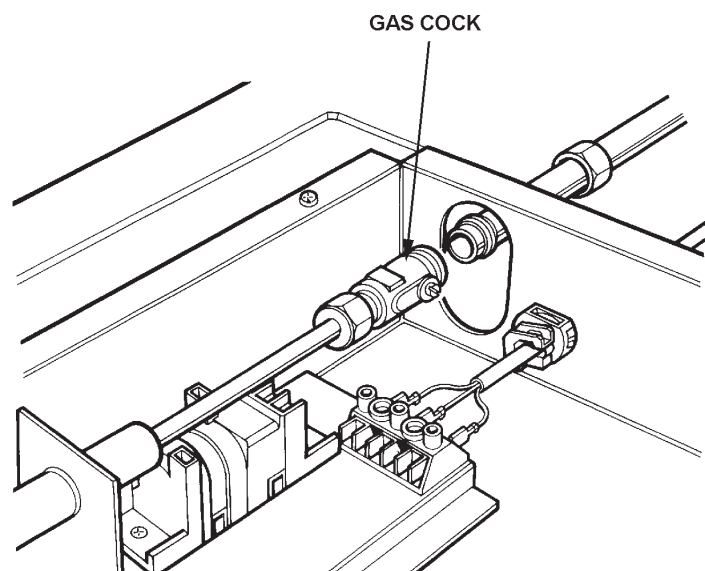

Fig. 11
17. Make final gas connection to the gas cock on the hob unit (8mm compression). (See Fig. 11.). After connecting the gas supply turn the gas cock to the **ON** position, check for gas tightness.